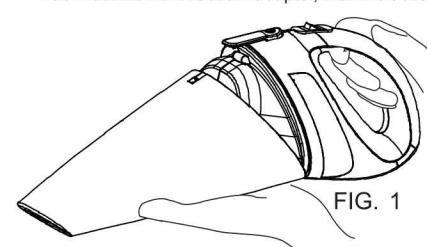

FIG. 1
4. To empty dust cup, press release button and remove dust cup by pulling it downward away from the unit (Fig. 1)